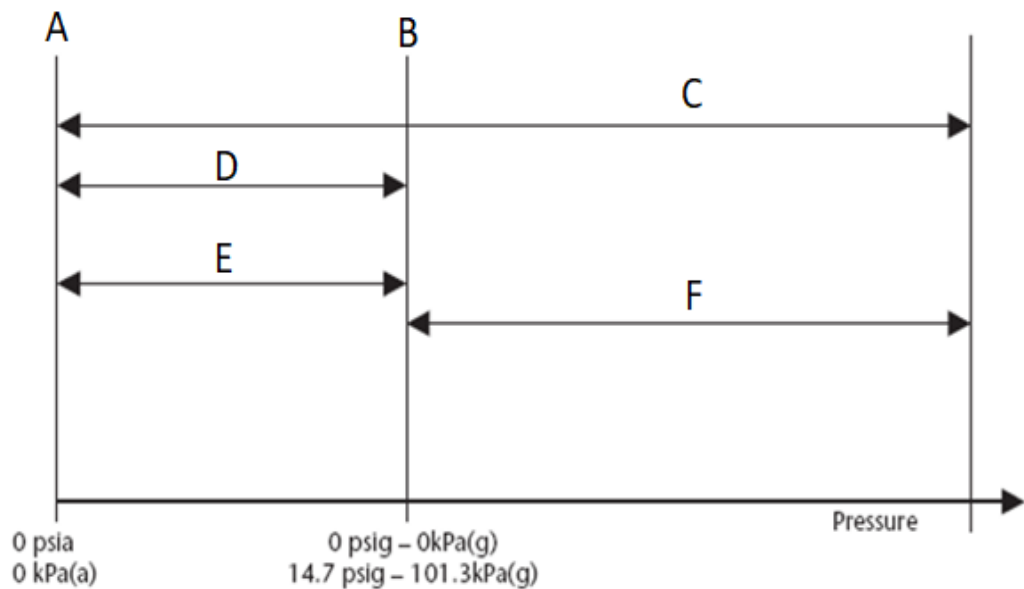

Figure 2(a) Pressure chart
- (a) Figure 2(a) shows the pressure range chart in the pressure management system. Identify label A, B, C, D, E and F as shown in Figure 2(a)